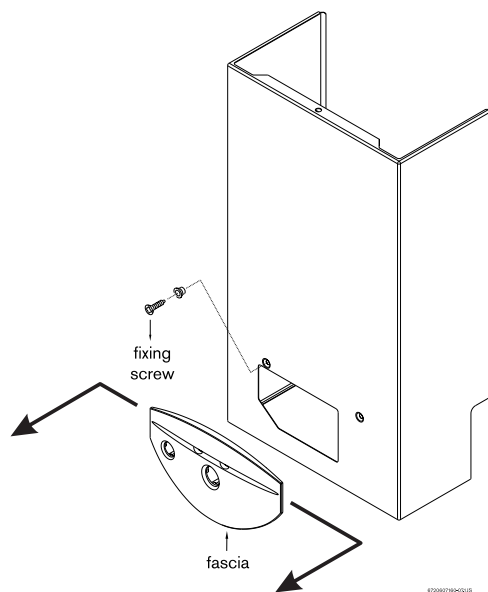

Fig. 10
12.1.2 Lay the appliance on its back, unfasten the two retaining screws and lift the case clear (Fig. 10).